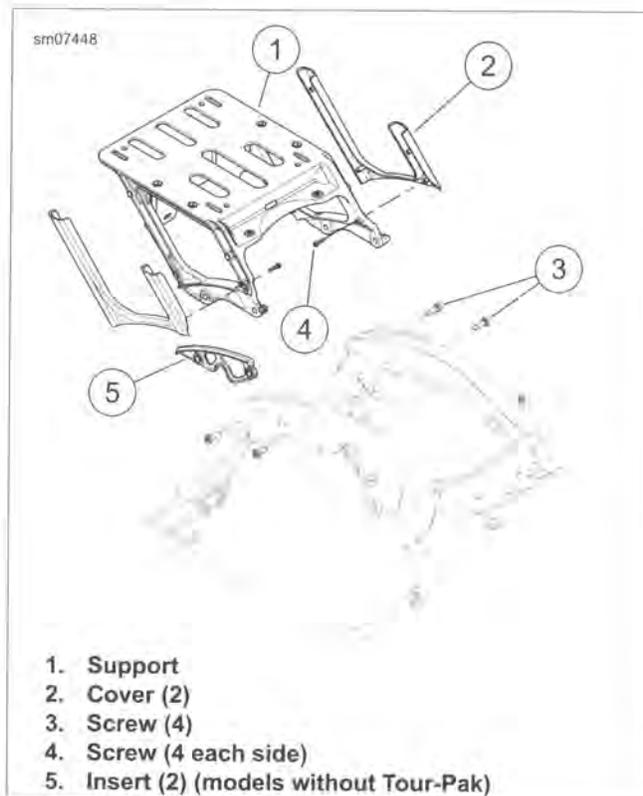

Figure 2-122. Tour-Pak Support
1. See Figure 2-122. Remove harness connectors from anchors on support.
2. Remove two fasteners (3) from each side. Remove Tour-Pak support.
1. See Figure 2-122. Install Tour-Pak support.
2. Install fasteners (3). Tighten to 15-20 ft lbs (20.3-27.1 Nm).
1. See Figure 2-122. Remove four screws (4).
2. Remove cover (2).
3. Install cover. Secure with screws (4).